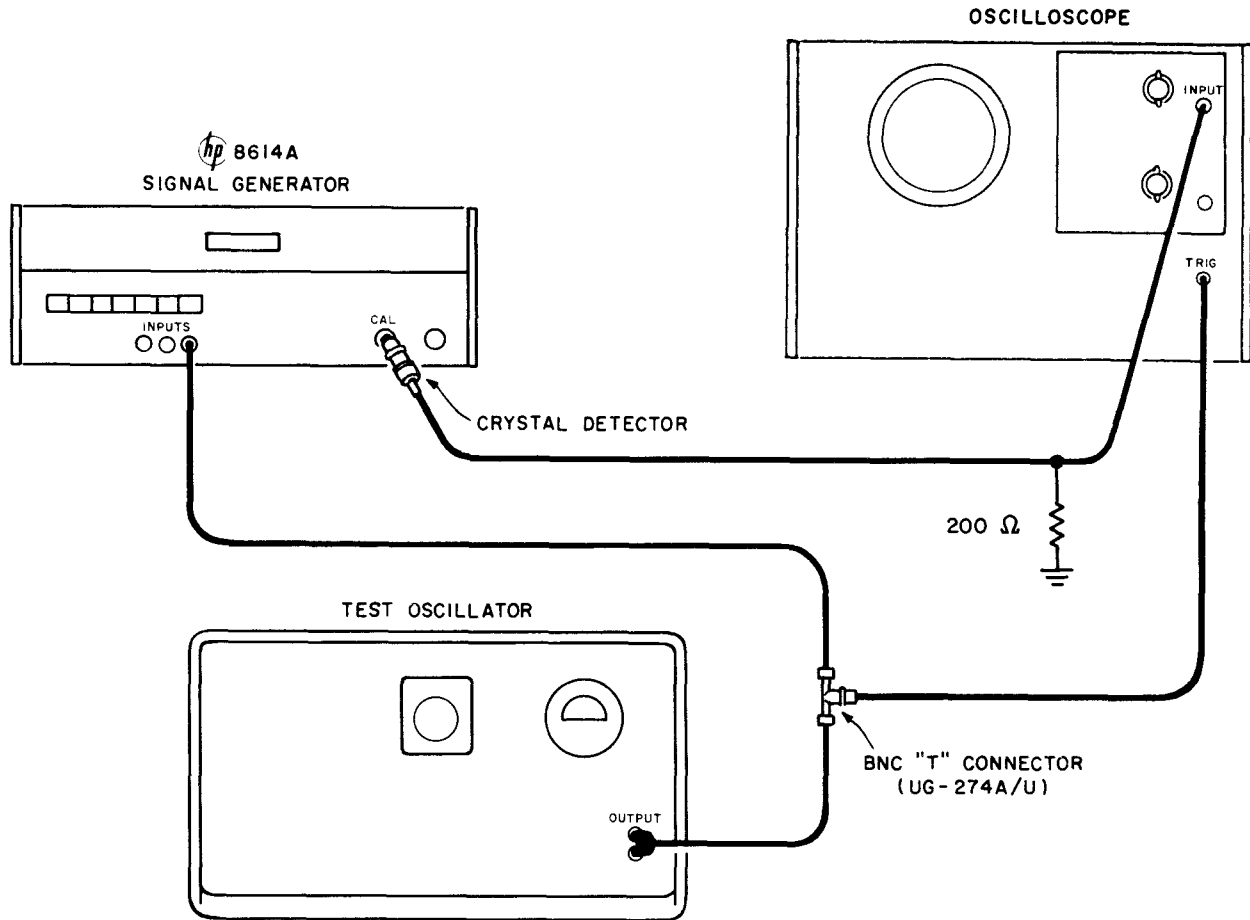

Figure 5-4. External AM Check
a. Connect instruments as shown in Figure 5-4 (see Note, paragraph 5-14, step a).
- FREQUENCY (MC) 800
- ATTENUATION (DB) 000 or less